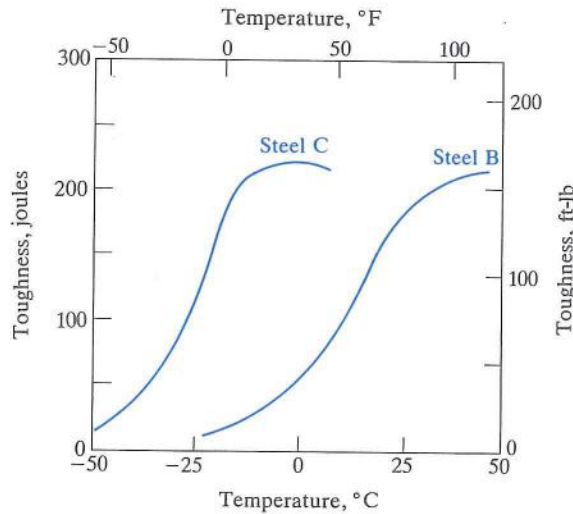

FIG. 8-4.4
Figure 8-4.4 shows the energy absorbed during impact fracture by two different steels as a function of temperature. As with the glass-transition temperature (Section 4-2), the ductility-transition temperature is not fixed, but rather depends on size and shape, the rate of loading, presence of impurities, and so on. However, the engineer will be quick to choose steel C over steel B of Fig. 8-4.4, if it is to be used in a welded ship in the North Atlantic winter waters. A crack, once started in the steel with a high ductility transition temperature, could continue to propagate with a low energy fracture until the ship was broken apart. Several unfortunate naval catastrophies occurred before design engineers learned how to minimize stress concentrations, and metallurgists found that fine-grained steels have lower
**Comments** In general, materials have more toughness at high temperatures than they do at low ones. In fact, there is an abrupt decrease in the toughness of many steels as they are cooled below ambient temperatures. The temperature at which this discontinuous decrease occurs is called the *ductility-transition temperature* (Fig. 8-4.4).